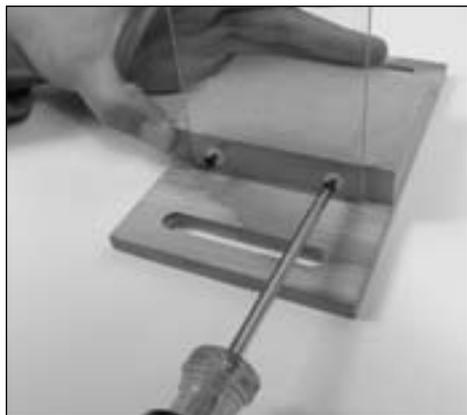

Figure 2
3. Collect one polycarbonate side panel, two screws, and two washers. Note that there is an extra hole on one end of the side panel. Align the end without the extra hole so the small holes in the side panel match up to the predrilled holes on the side of the foundation block. Place a washer over a screw and screw it into one of the holes (Figure 2). Repeat with the second washer and screw in the other hole.